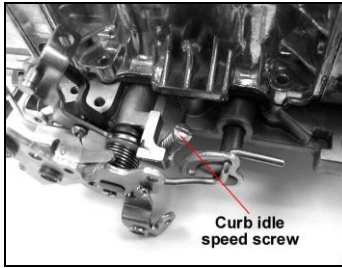

Figure 11
- Now that the idle mixture is set, it may be necessary to go back and reset the idle speed using the curb idle speed screw, as shown in **Figures 11**.